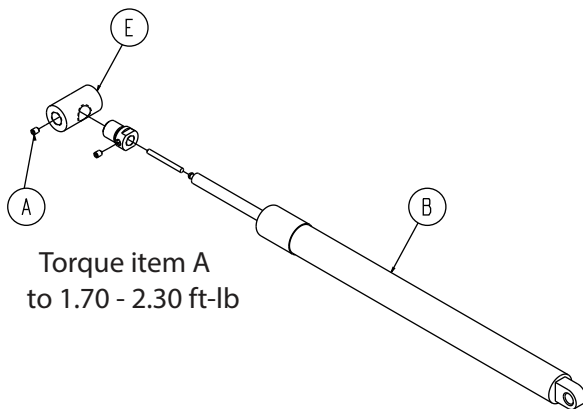
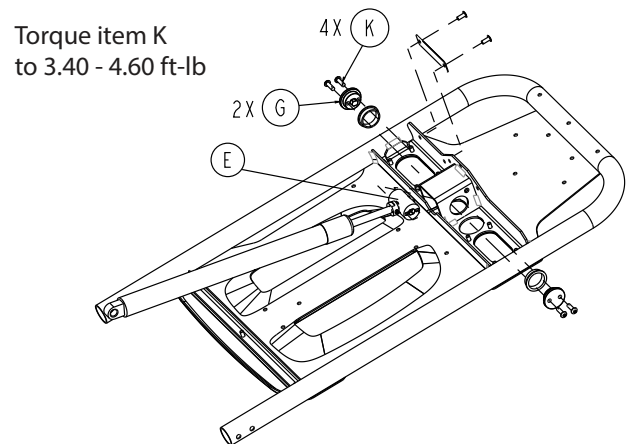

Figure 12 – Fowler cylinder components
Figure 13 – Remove the button head cap screws
4. Check that the gas cylinder (B) is threaded into the gas spring yoke (E) so that no threads are visible on the gas cylinder shaft (Figure 12).
- a. Using a T25 Torx driver, remove the two button head cap screws (K) that secure the gas spring yoke end (G) to the yoke on the patient left side (Figure 13). Save the screws.
- b. Using a 3/32" hex wrench, remove the set screw (A) from the center of the gas spring yoke (E) (Figure 12 and Figure 13). Save the screw.